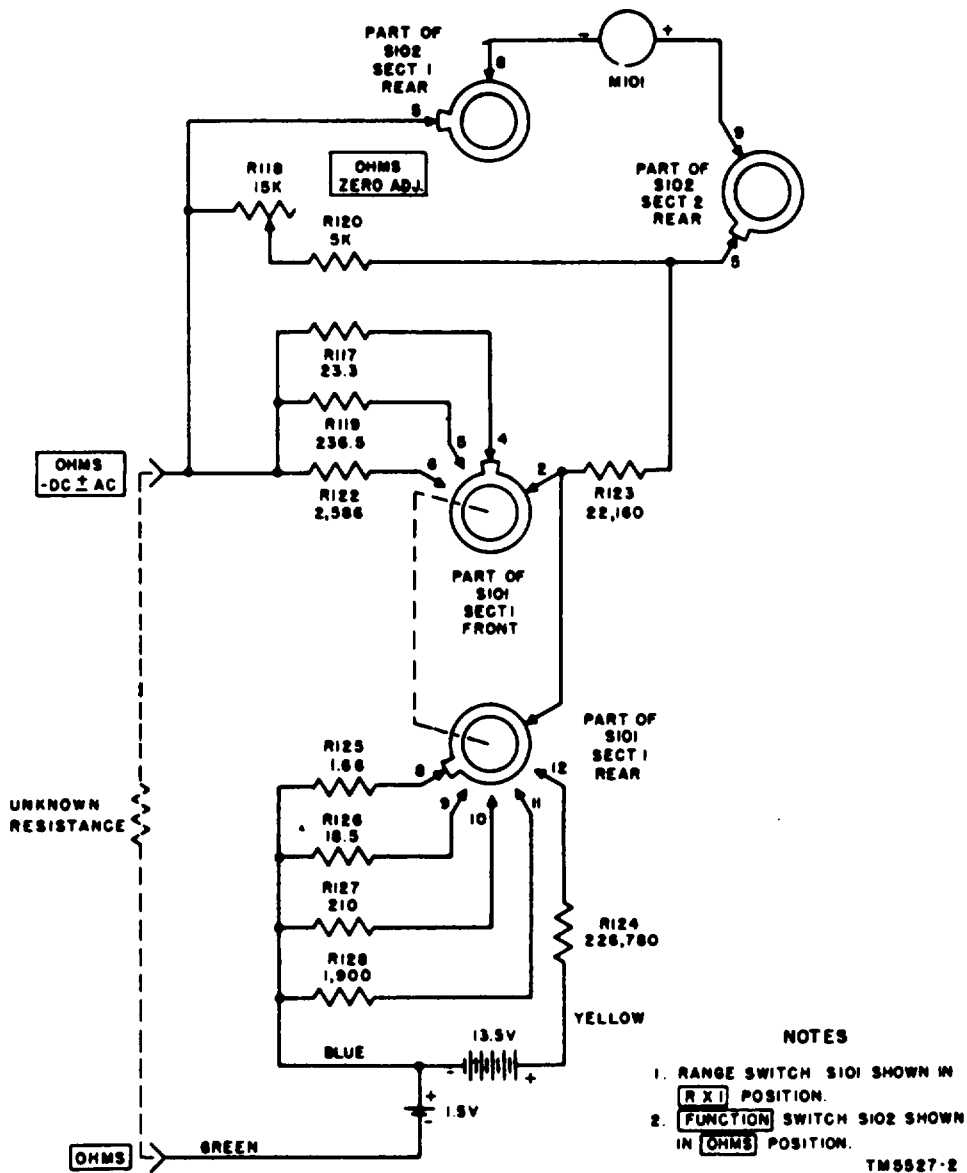

Figure 4-5. Ohmmeter circuit, simplified schematic diagram.
4-5. Ohmmeter Circuit (fig. 4-5)
- (1) With an unknown resistance connected between the OHMS - DC ±AC jack and the OHMS jack, FUNCTION switch S102 in the OHMS position, and range switch S101 in the RX1 position, the following circuit is established (fig. 4-5) :